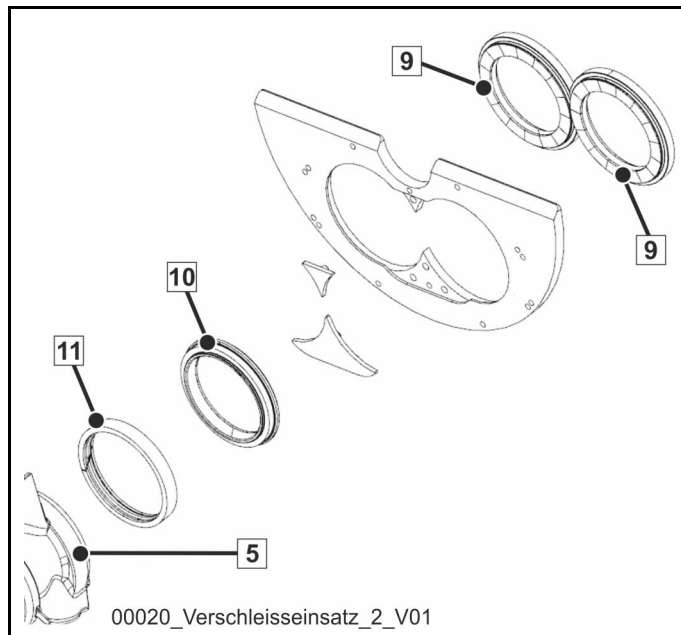

Fig. 172
A two-piece wearing insert (9) (**Fig. 172**) made of white cast iron with an appropriate support plate is available as special equipment.